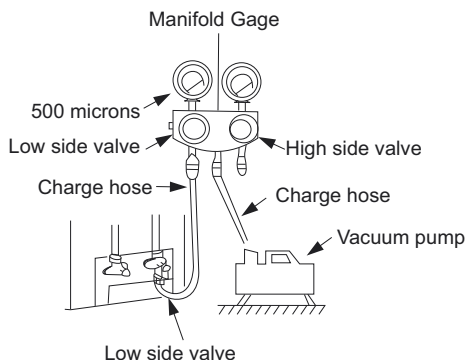

Fig. 7 – Manifold
- 3 Fully open the low side of manifold gage (see Fig. 7).